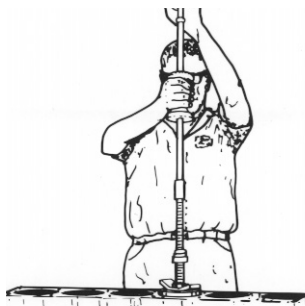

Figure 2
- 4b. Attach the slide hammer (Item 3) to the puller and remove the cylinder sleeve liner. See Figure 2.